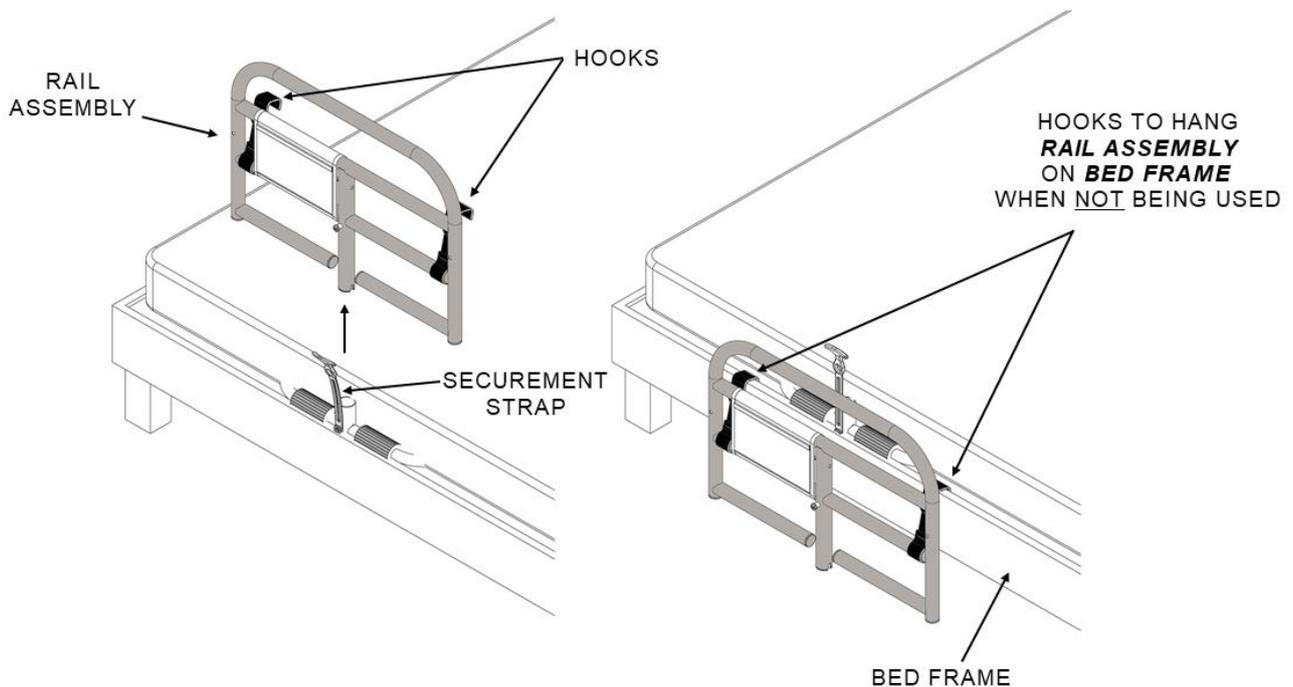

FIGURE 7
8. For storage of RAIL ASSEMBLY, unlatch SECUREMENT STRAP, and remove RAIL ASSEMBLY from BASE ASSEMBLY. USE HOOKS to hang the RAIL ASSEMBLY on the BED FRAME as shown in Figure 7. **DO NOT USE RAIL ASSEMBLY WHEN IN STORAGE POSITION.**